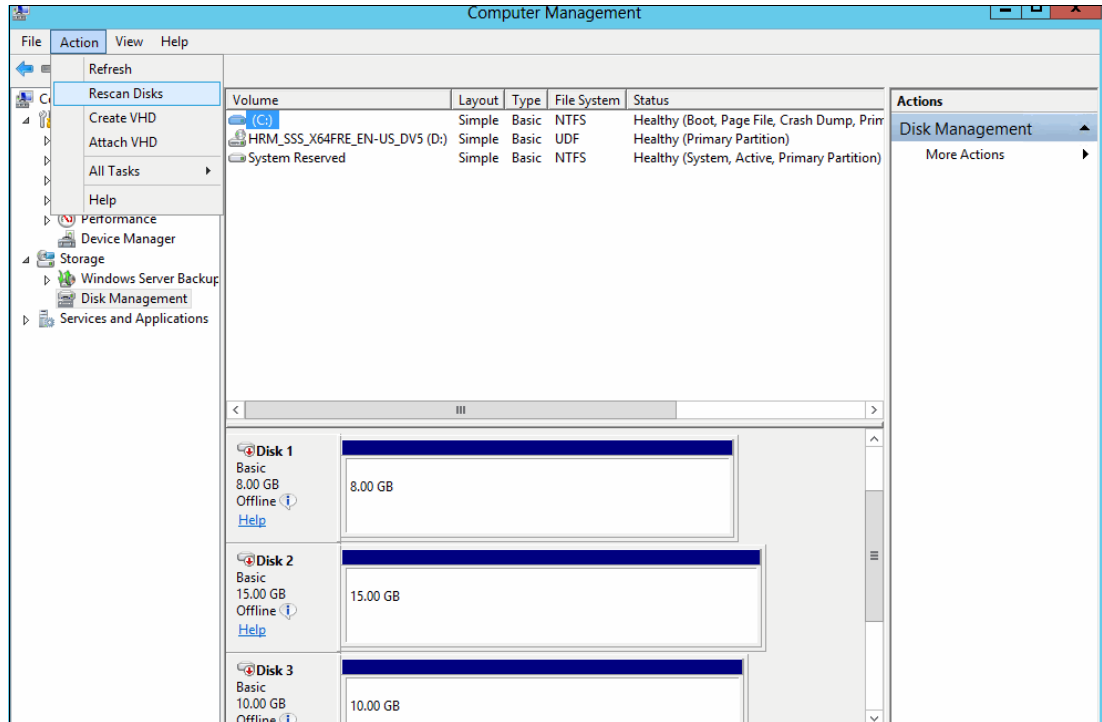

Figure 6-24 Performing a drive rescan: Windows 2012
- After all of the volumes have been unmapped, return to the host and perform a drive rescan. For a Windows 2012 host, go to the Windows 2012 Server Manager Dashboard, select **Tools** → **Computer Management** → **Storage** → **Disk Management**, and select **Rescan Disks** from the **Actions** menu, as shown in Figure 6-24.